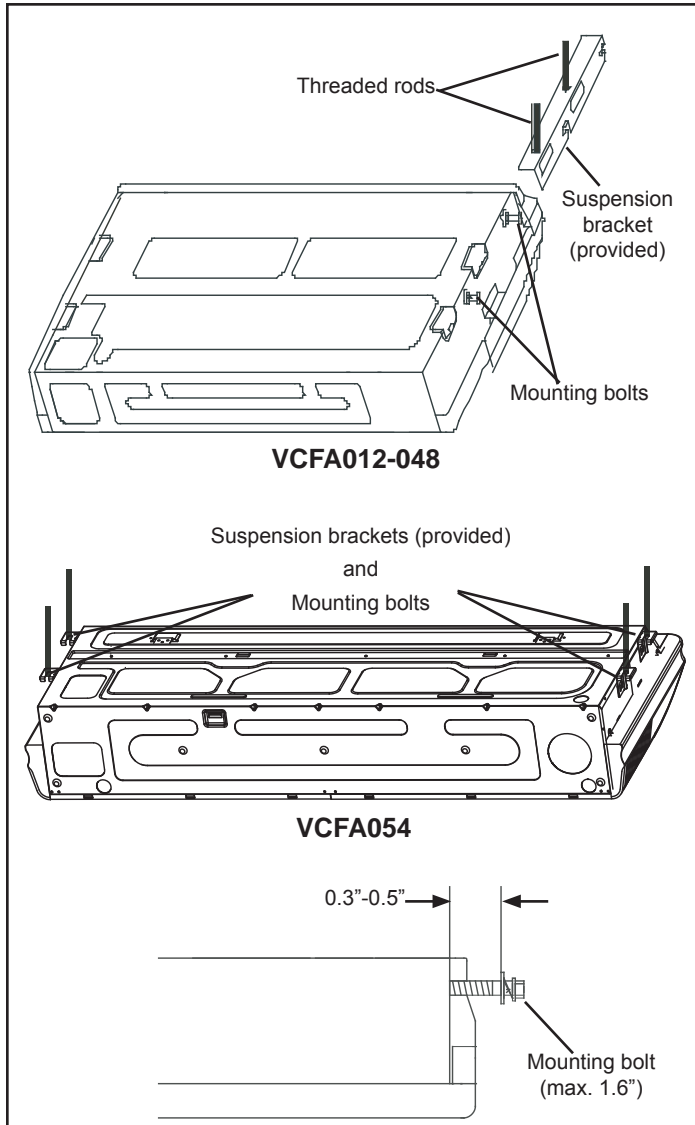

Figure 7. Suspend Unit
- Install four factory-provided mounting bolts by screwing them into the provided threaded holes in the unit body. See figure 7 for mounting bolt installation locations. The bolts should only extend from the body a distance which enables the bracket to engage the bolts and secure the unit.
- VCFA054 units:** Afix the four short suspension brackets to the unit body. See figure 7. Install the VCFA054 unit directly onto the threaded rods as instructed in step 8 and then proceed to step 6. Step 9 will not apply to VCFA054 installation.
11. Securely tighten the mounting bolts on both sides. See figure 7.
- Once snug, continue another half-turn on each nut which should create a leak-free joint. A torque wrench may be used to tighten flare nuts using table 2 recommendations. See figure 7. **Do not over-tighten a flared joint. Flared connections should always be accessible and must be insulated to prevent condensation.**